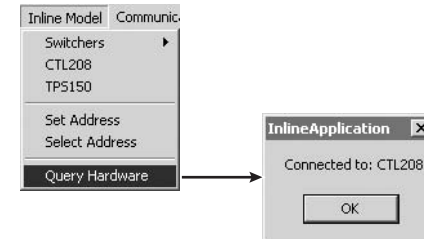

Figure 4-4 — Connected window
1. Click *Inline Model > Query Hardware* to configure the ICS100 program to communicate with the CTL208 and to confirm that communications have been established with the control panel module. The *Connected* window appears (figure 4-4).